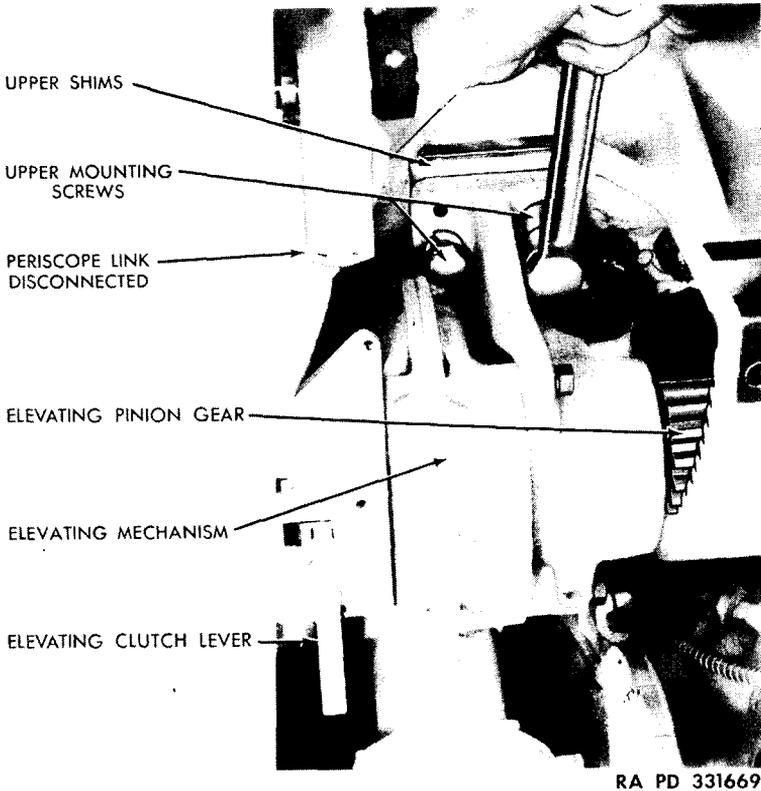

Figure 55. Removing elevating mechanism (M24).
c. REMOVE ELEVATING MECHANISM. Remove four screws from cover at front end of stabilizer control box. Loosen cable clamp screw and slide cable out of stabilizer control box (fig. 54). Cut locking wire and unscrew turnbuckle from periscope linkage. Remove four screws holding gun elevating mechanism to front of turret (fig. 55). Support assembly while removing last screw.